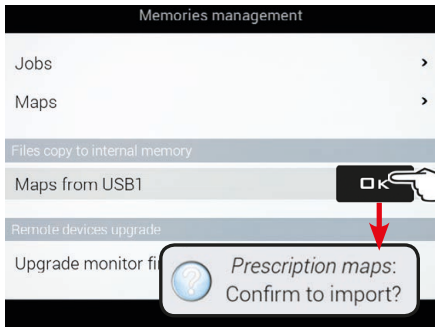

Fig. 306
- Select **Maps from USB** (Fig. 306) and press **OK**. The monitor requires to confirm the import **OK: confirm, ESC: cancel**